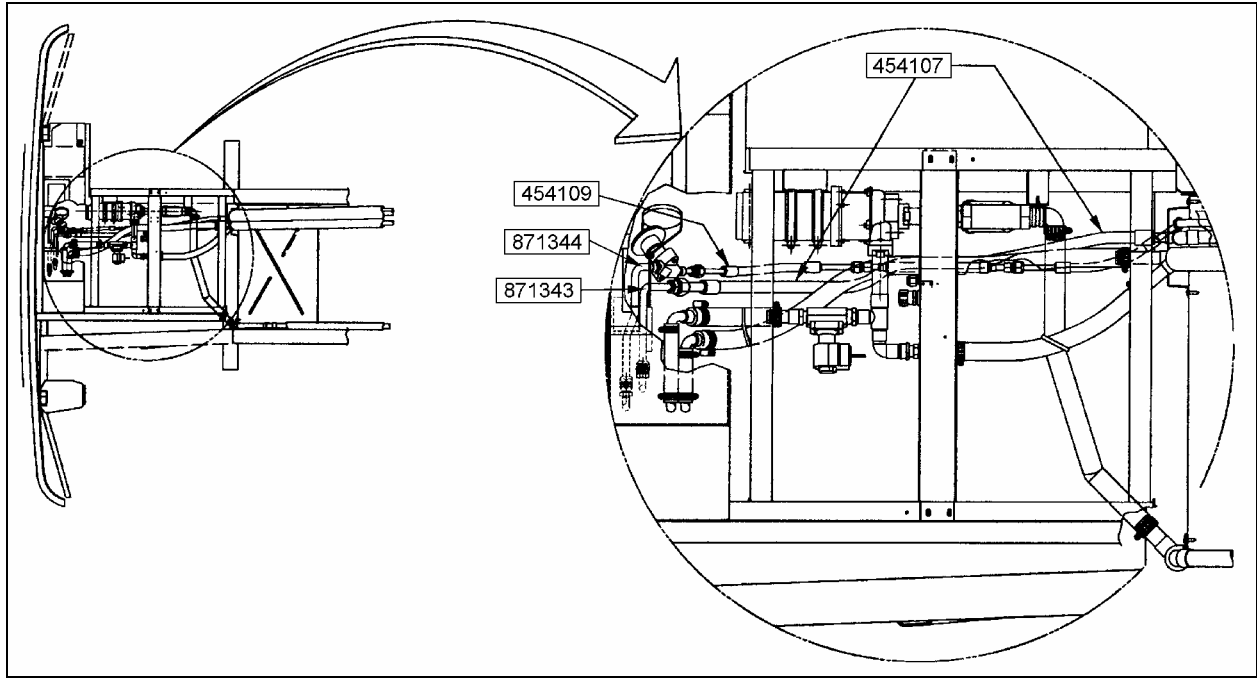

FIGURE 4: VIEW OF INSTALLATION – FRONT SECTION
2. Install and connect hoses 454107 and 454109 as per figure 4.